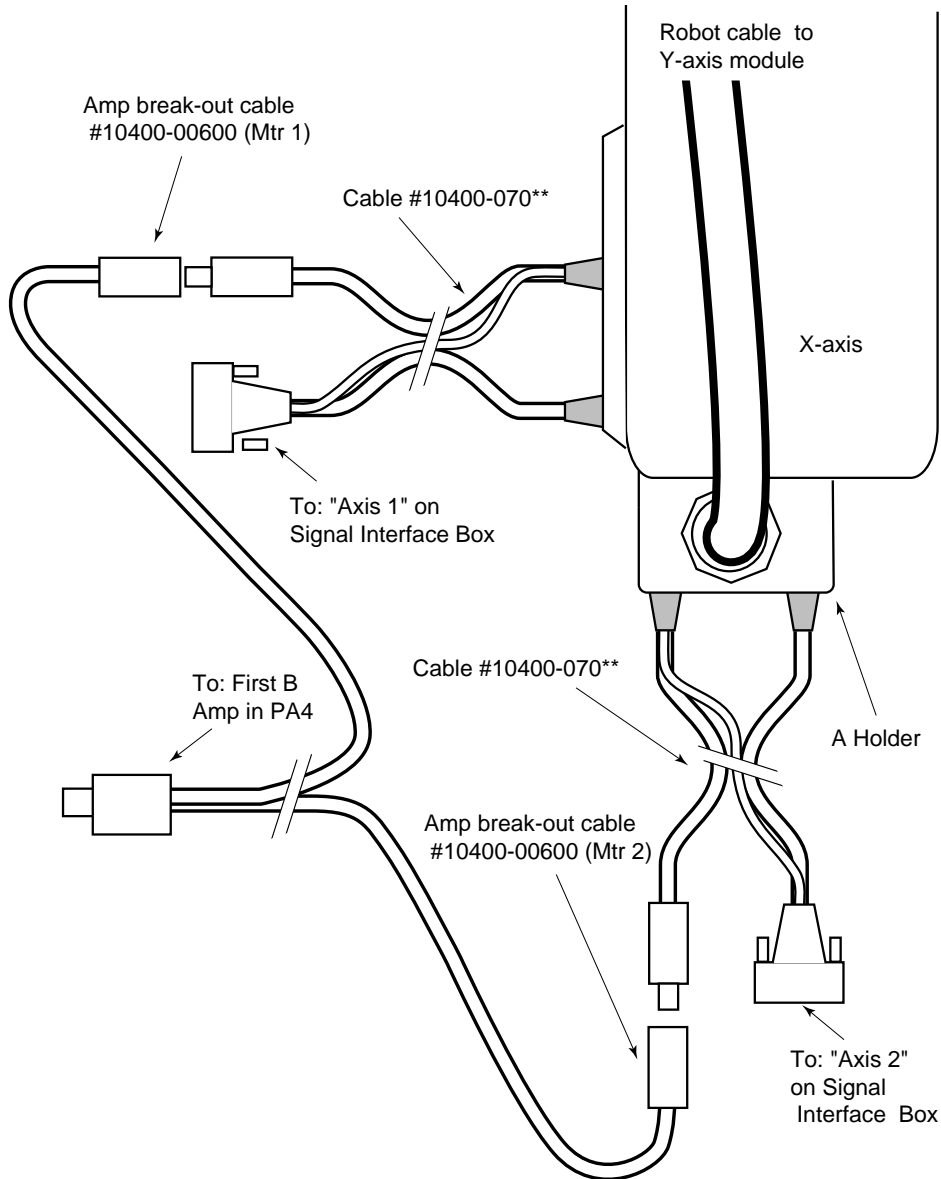

Figure 4-45. Connecting to an Adept MV Controller
- a. Connect the two barrel ends of the cable to the X-axis module as shown in Figure 4-45. These connectors have different pin sizes and cannot be installed incorrectly.
- b. Attach the A holder end of the robot cable to the motor end face of the X-axis module as shown in Figure 4-45 (refer to Section 4.3 for holder mounting).
- d. Connect the two barrel ends of the controller cable to the Z-axis robot cable holder on the X-axis module as shown in Figure 4-45. These connectors have different pin sizes and cannot be installed incorrectly. The other ends connect to the controller connections marked "2-CN6 MOTOR 2" and "2-CN5 SENSOR 2".